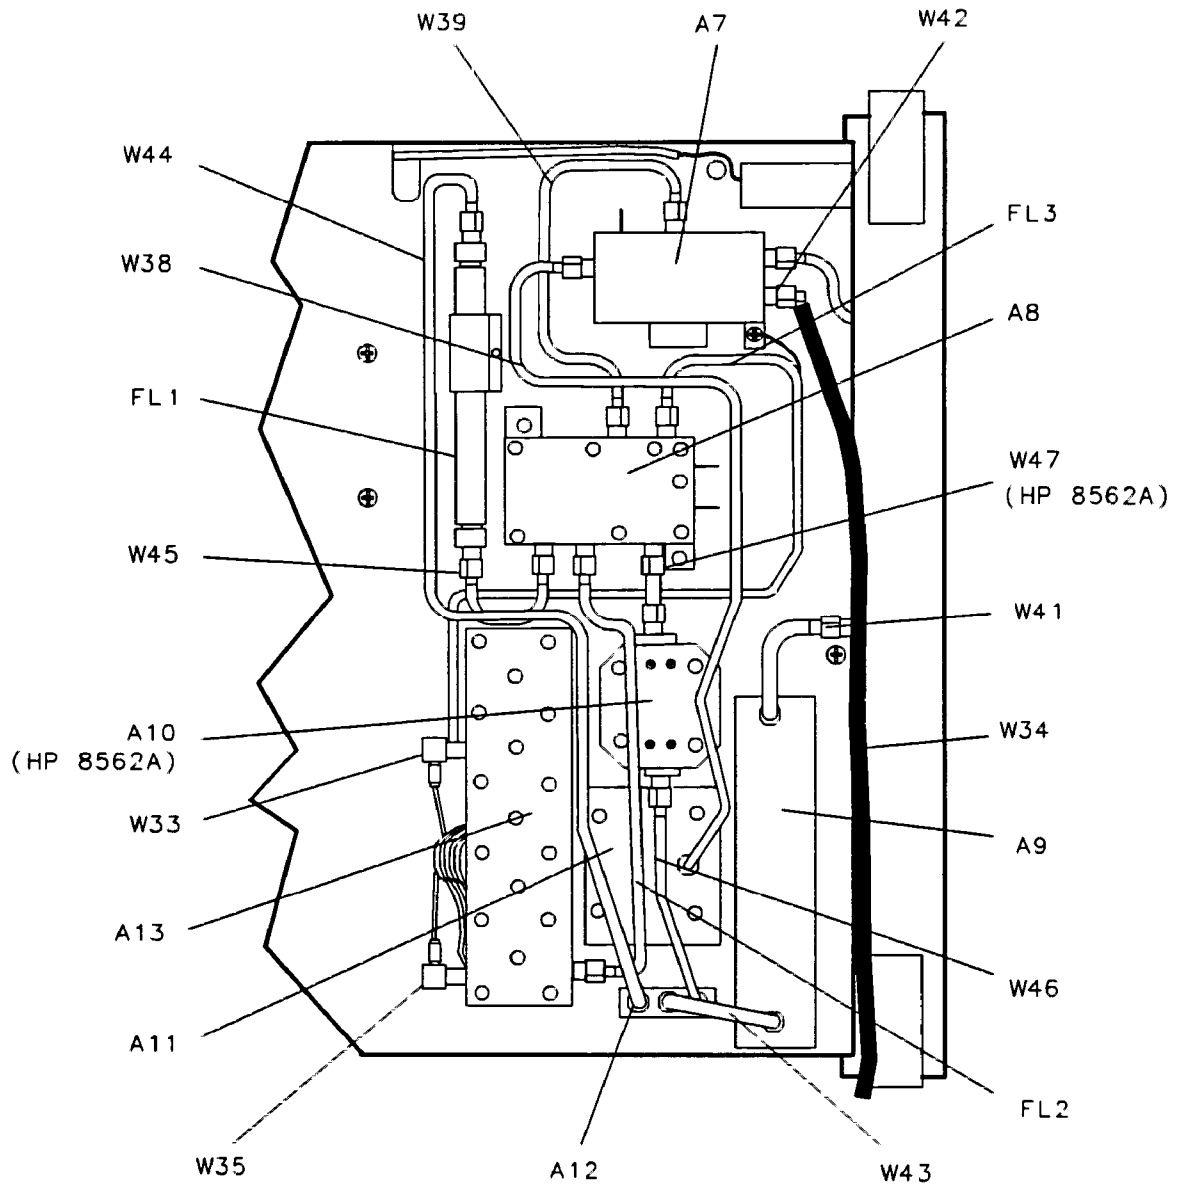
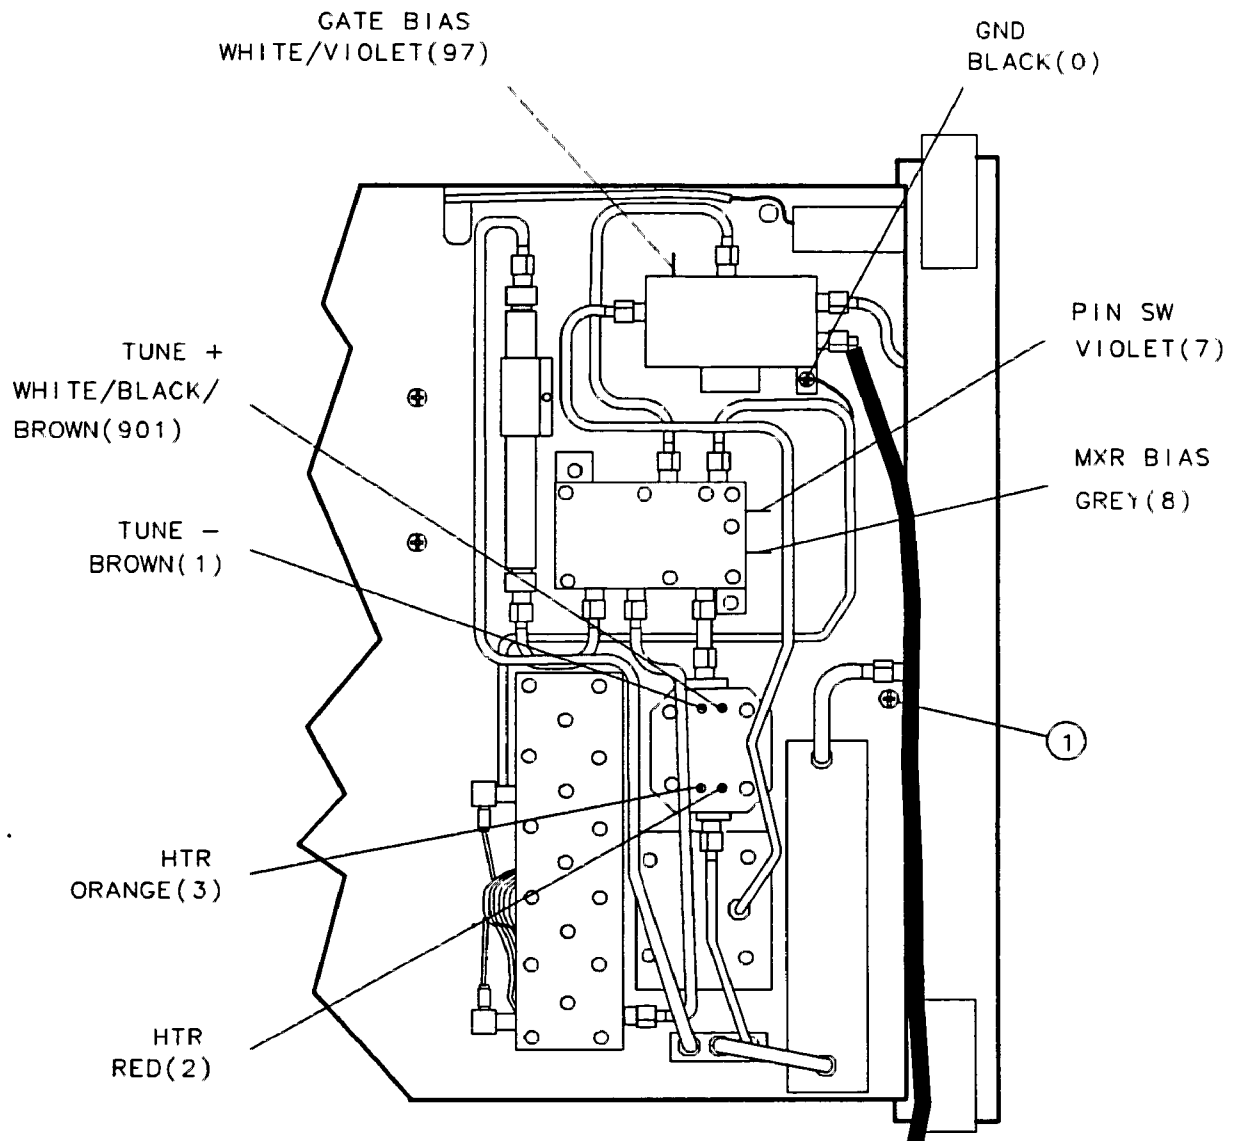

Figure 3-16. Assembly Locations
Figure 3-17. RF Section Bias Connections
Figure 3-16 illustrates the location of the assemblies and Figure 3-17 provides the colors and locations of the assembly bias wires.
3. Remove screw (1) securing the attenuator to the front frame center support. See Figure 3-17.
3. Attach the attenuator to the center support with one panhead screw (1). See Figure 3-17.
4. Connect the four A10 bias wires as illustrated in Figure 3-17.
2. Orient the A11 Assembly in the analyzer as illustrated in Figure 3-16 .